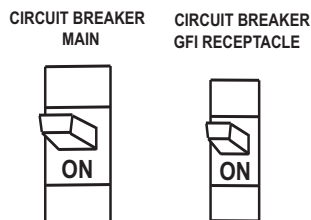

Figure 26. Main and GFCI Circuit Breakers
11. If there are no abnormal problems shown on the engine indicator, turn both the MAIN and GFCI circuit breakers to their ON position (Figure 26).